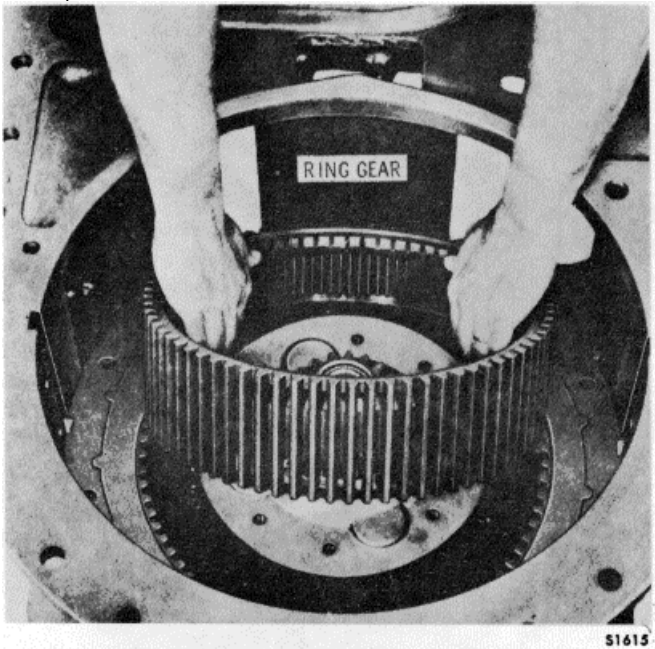

Figure 15-76. Removing Intermediate-Range Ring Gear
10. Remove the intermediate-range ring gear (Figure 15-76).